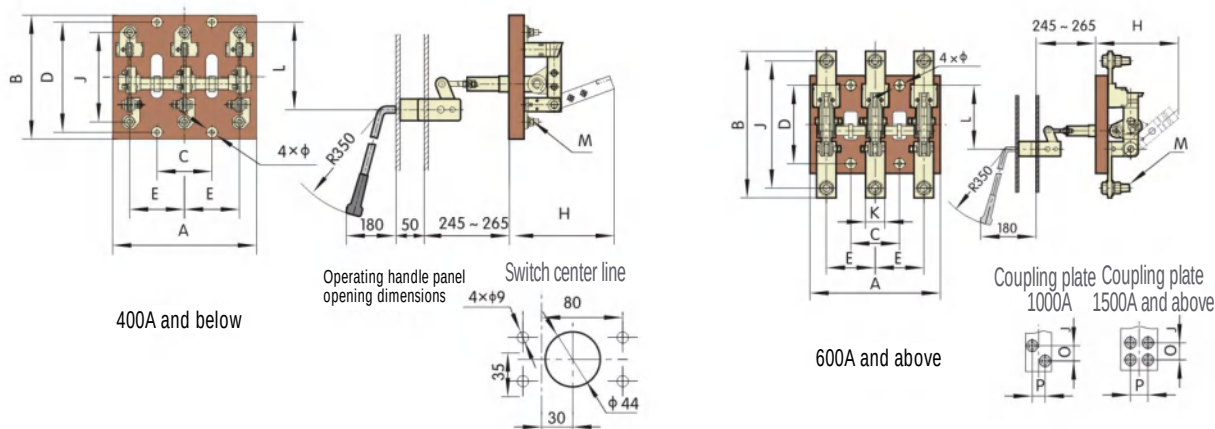

Figure 9
5.HD13BX outline and installation dimensions (see Figure 9, Table 10).